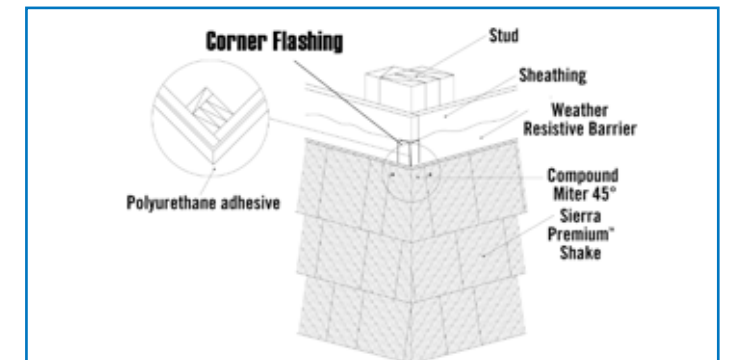

Fig. 8.3
- Use a polyurethane adhesive where mitered or laced boards join. (Fig. 8.3 - 8.4)